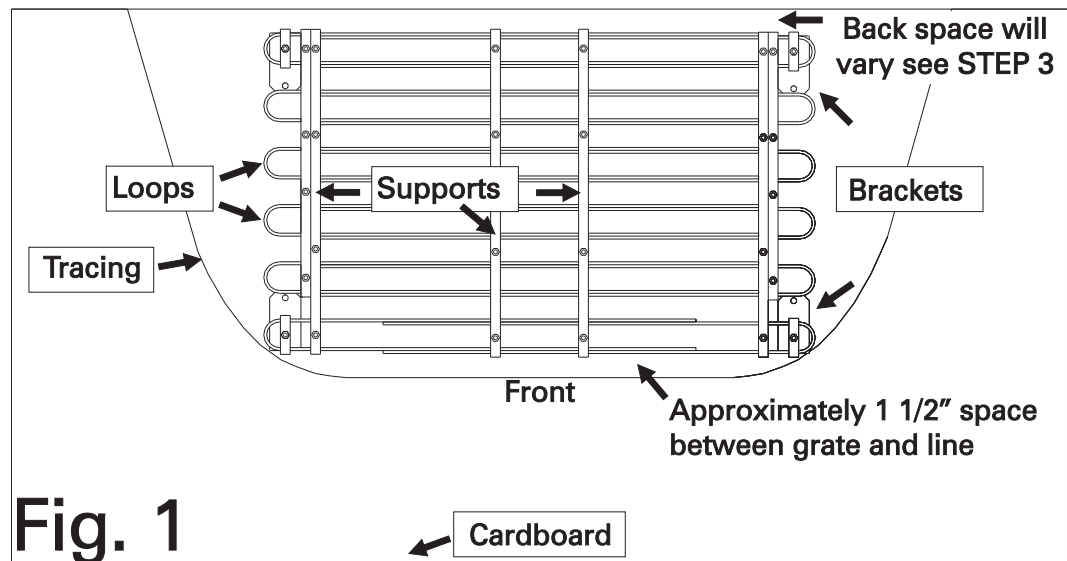

Fig. 1
2. Lay cardboard template on flat surface, place grate on top with bottom side facing up (nuts are on bottom side). Be sure front of grate, as marked is facing front (curved side) of tracing (SEE FIG. 1).
3. Maintain a space between Adjust-A-Grate and front of tracing approximately equal to spaces within grate. Space between grate and back edge of cardboard will vary. Adjust-A-Grate should remain parallel with back edge of cardboard with no less than 1/8" space to insure grate will fit into well after adjustment (SEE FIG. 1). If back space exceeds 4" then expansion kit or larger grate is needed, check size chart on box top.